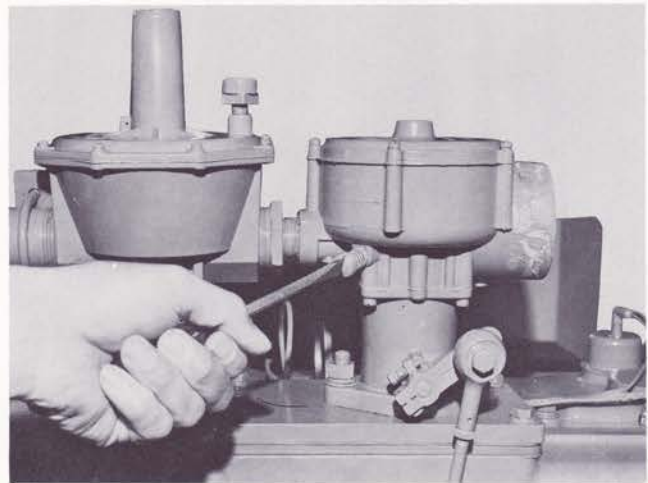

Fig. 4-9. Setting idle adjustment
3. Close the idle adjustment; then open two and one-half turns. Fig. 4-9.